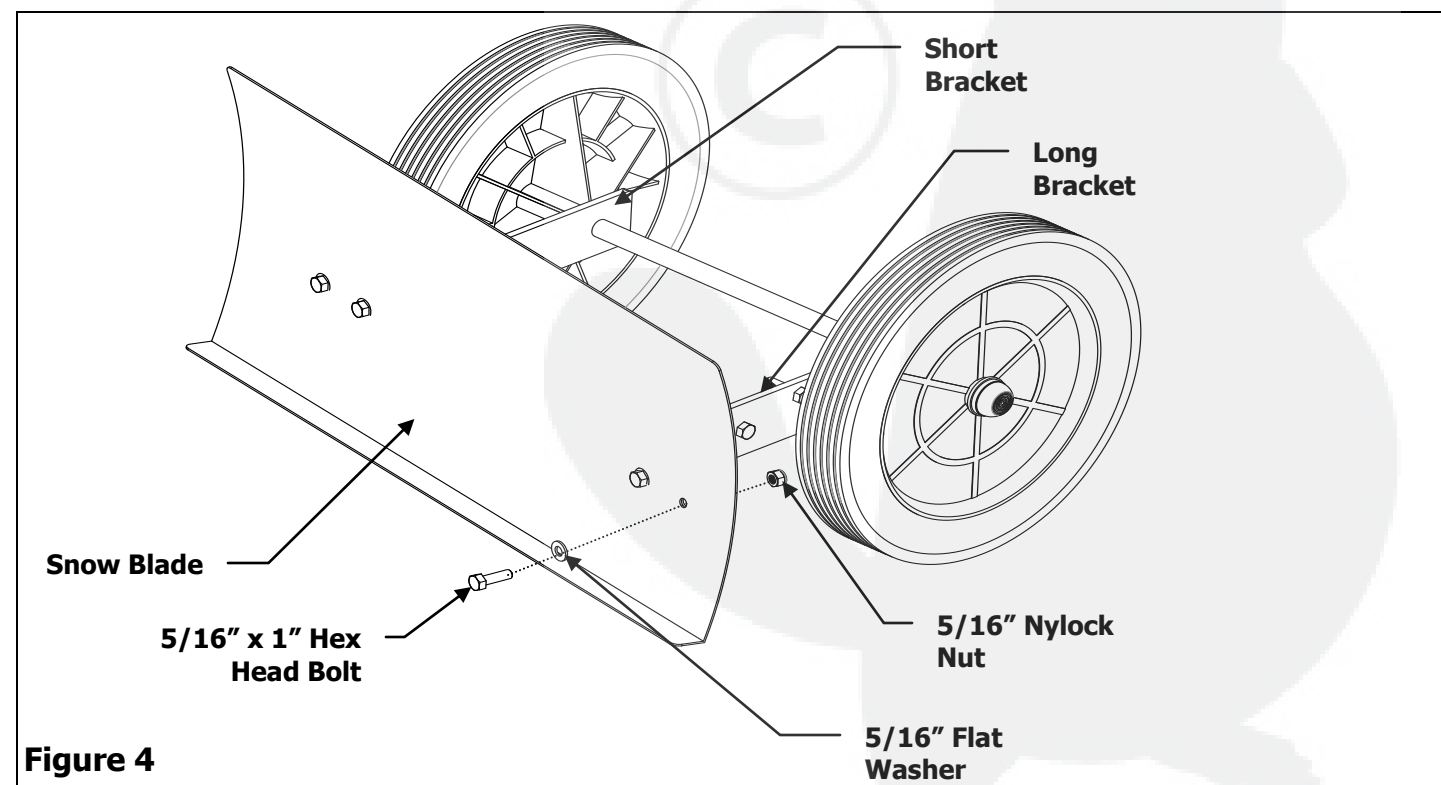

Figure 4
4. Assemble four 5/16" x 1" Hex Head Bolts, four 5/16" Flat Washers and four 5/16" Nylock Nuts. Place a Flat Washer onto a bolt then insert the bolt into a hole in the Snow Blade and into a corresponding hole in one of the Brackets. Secure with a Nylock Nut. Repeat process on the remaining three holes in the Snow Blade. See Figure 4.